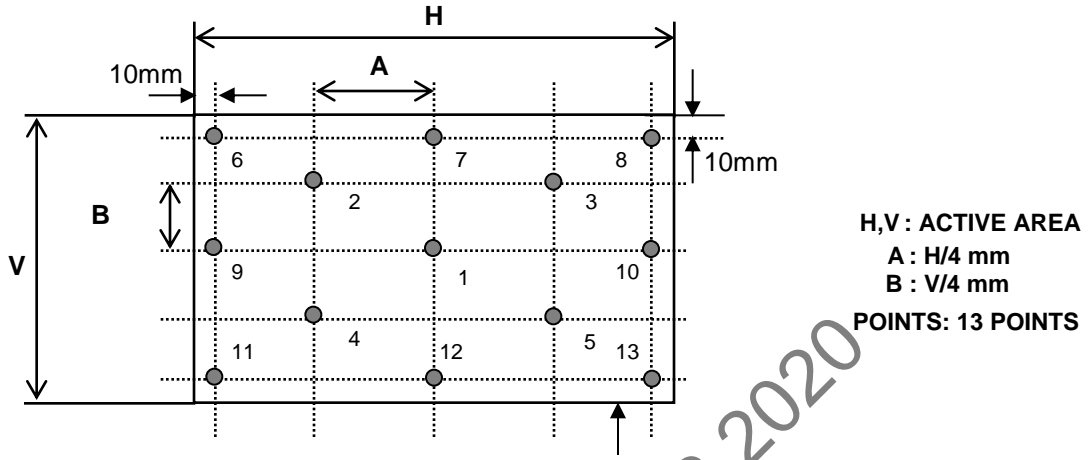

FIG. 3 Response Time
4. Response time is the time required for the display to transition from black to white (rise time, T_r) and from white to black (falling time, T_f). For additional information see FIG 3.